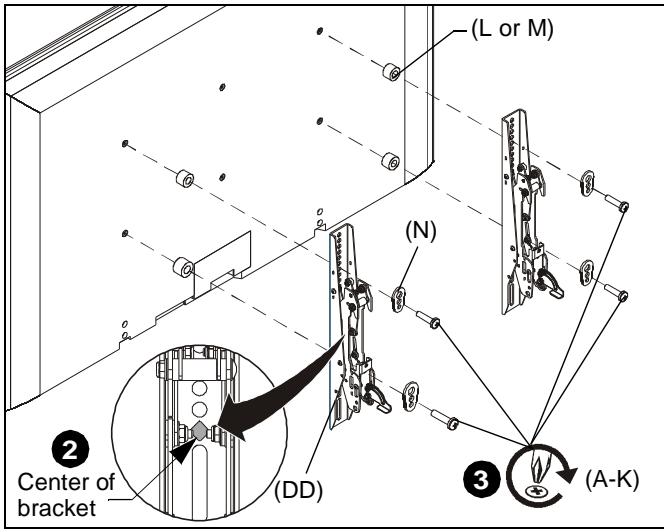

Figure 6
- Align the center of the interface bracket (DD) with center of display. (See Figure 6)
- Select correct screws, spacers (if necessary) and universal washers from the hardware bag (A-N) and attach brackets (DD) to back of displays. (See Figure 6)